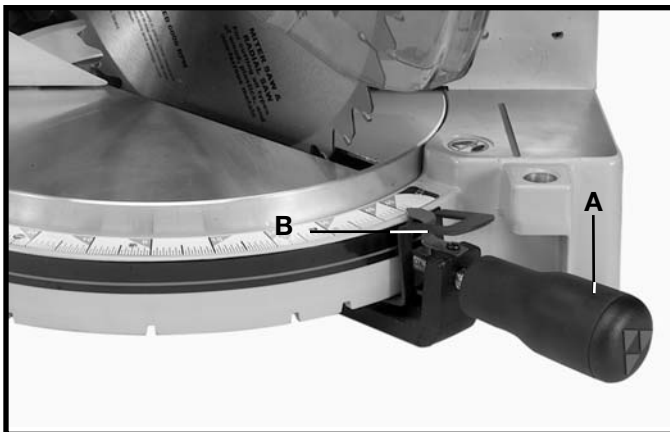

Fig. 6
2. Figure 6 illustrates the table lock handle (A) attached to the saw.
1. Loosen the table lock handle (A) Fig 6 one or two turns and depress the index lever (B).